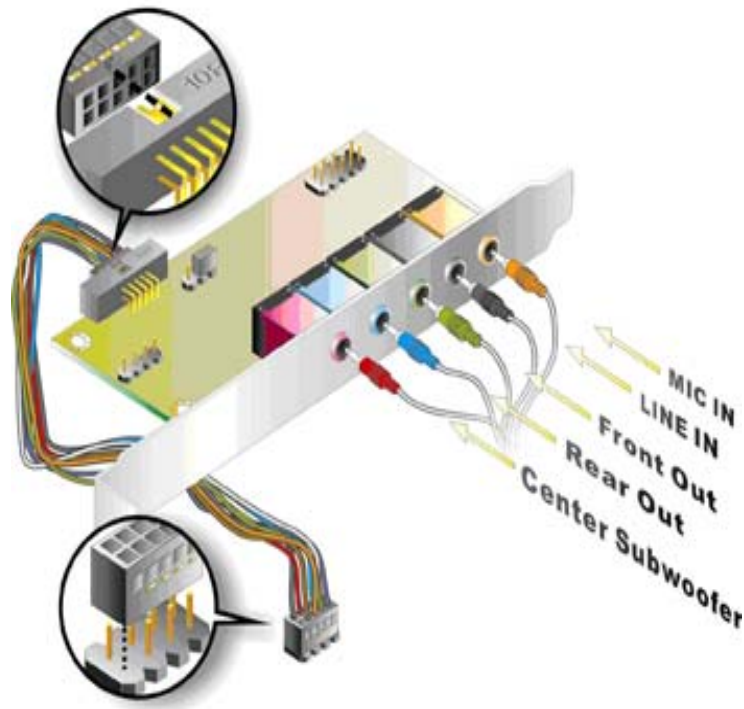

Figure 5-8: Audio Kit Connection
Step 2: **Align pin 1.** Align pin 1 on the onboard connector with pin 1 on the audio kit connector. Pin 1 on the audio kit connector is indicated with a white dot. See **Figure 5-8**.
Step 3: **Connect the audio devices.** Connect the speakers and the subwoofer to the appropriate audio jack shown in **Figure 5-8**. **Step 0:**